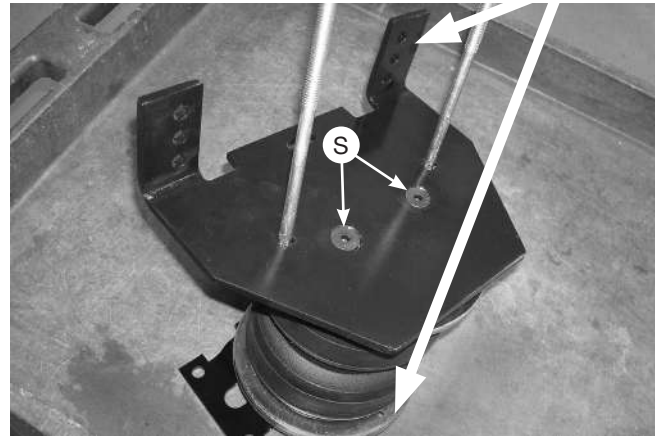

Fig. 12
5. Set the lower bracket main plate assemblies onto the air springs with the roll plates installed. Attach with the 3/8"-24 x 3/4" flat-head socket cap screws (S) (Fig. 12). Torque the hardware to no more than 20 lb.-ft. (27Nm).